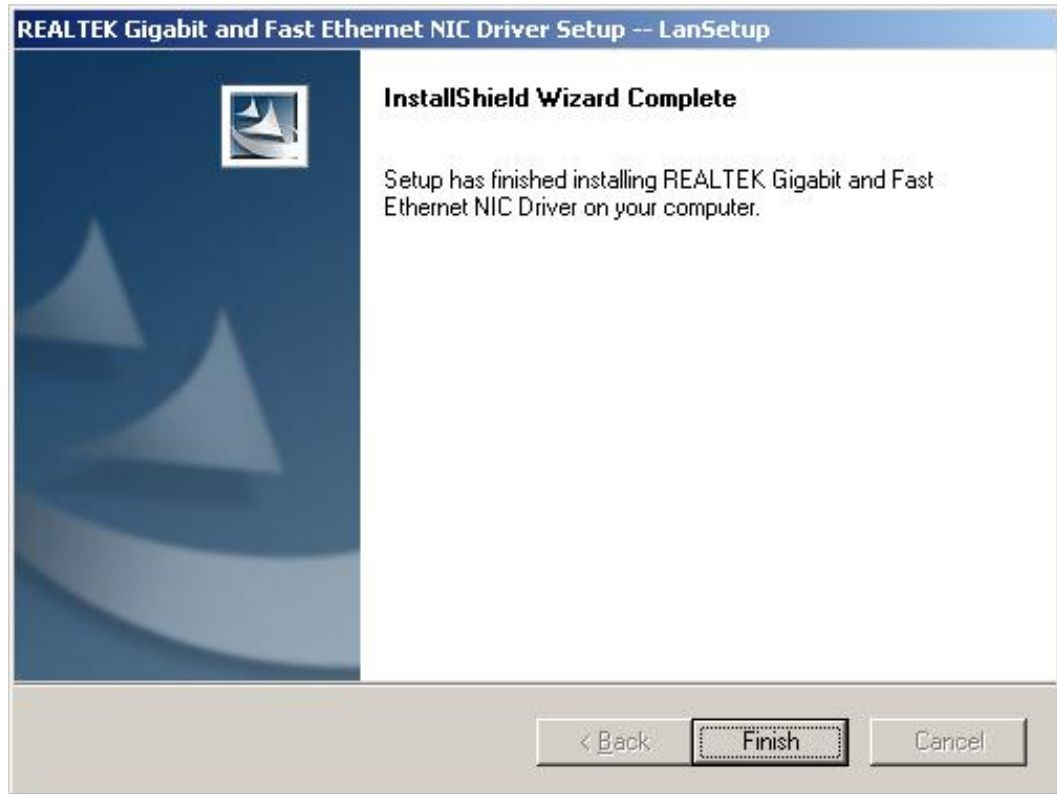

Figure 7-28: Installing Screen
- Step 9:** Once the installation is complete, the **InstallShield Wizard Complete** screen appears (**Figure 7-28**).